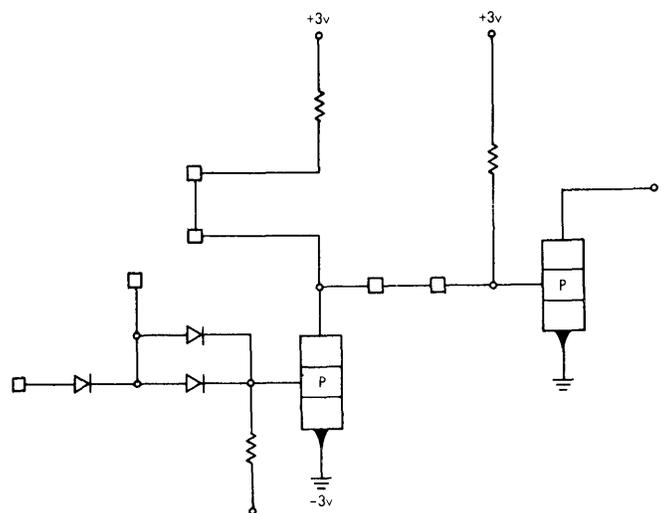
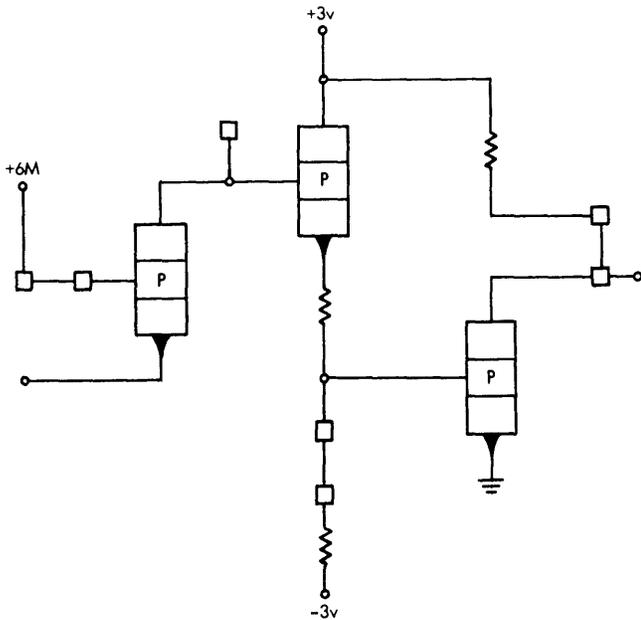

Figure 16. Driver
Figure 17. Receiver (with Load)
3. Up to eight drivers (Figure 16) and eight receivers (Figure 17) can be placed on any line.